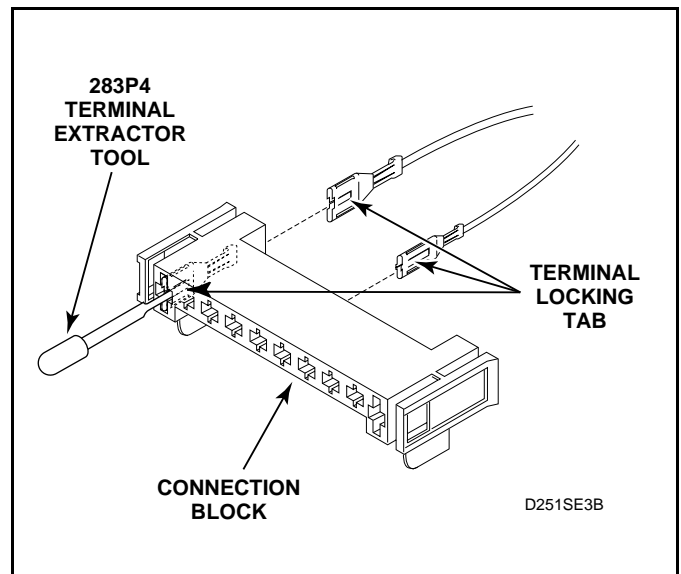

Figure 23
- (1.) Insert the tool into the block on the back of the terminal being removed. See *Figure 23*.
- (2.) Apply tool pressure to compress the terminal locking tab on terminal and force the terminal and wire out back side of connection block. See *Figure 23*.